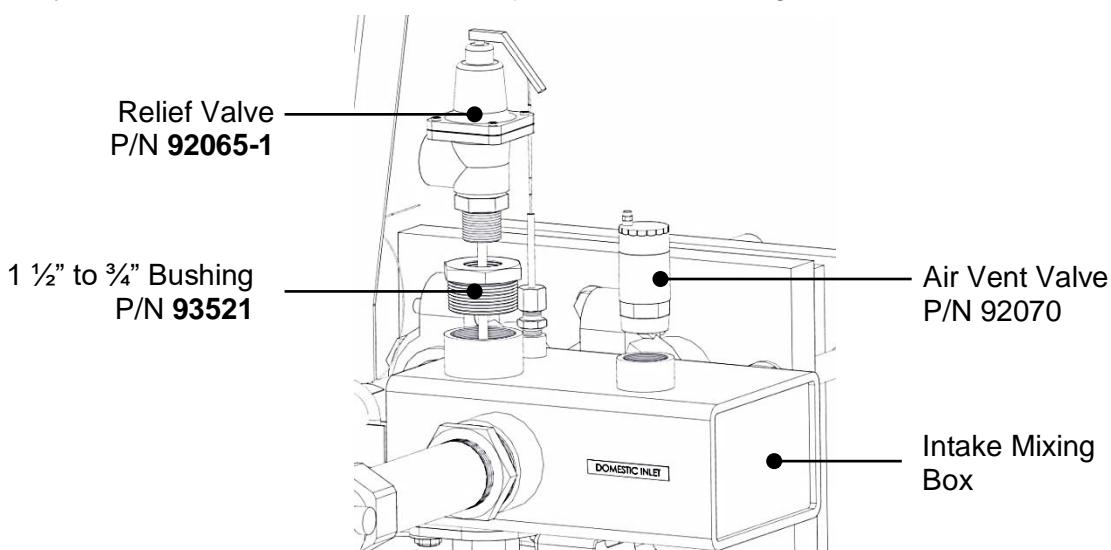

Figure 2-9. Relief Valve and Air Vent Valve Installation – 150 PSI – Exploded
- If you have a 150 PSI unit, install the parts as shown in Figure 2-9.